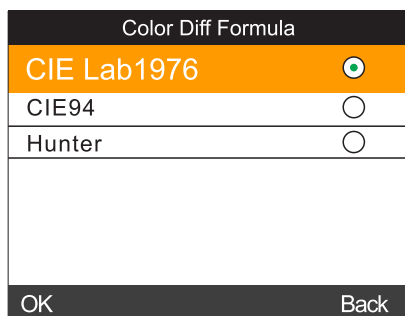

Figure 44 Color Diff Formula
- d) Select “Settings” - “Color Diff Formula” to enter an interface shown in Figure 44. You can select the needed color difference formula through this interface. After selecting and saving this formula, the instrument will calculate the color difference according to the selected formula when measuring.